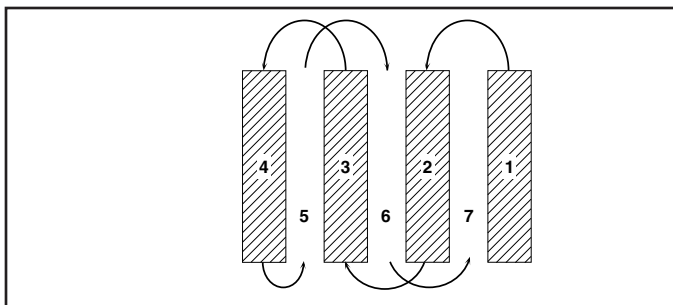

Fig. 13
- You will find tilling much easier if you leave a row untilled between passes. Then go back between tilled rows. (See Fig. 13) There are two reasons for doing this. First, wide turns are much easier to negotiate than about-faces. Second, the tiller won't be pulling itself, and you, toward the row next to it.